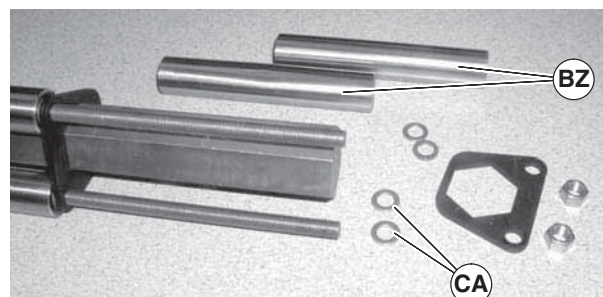

Figure 60
7. Remove pulleys (Figure 60, item BZ) and additional washers (CA).